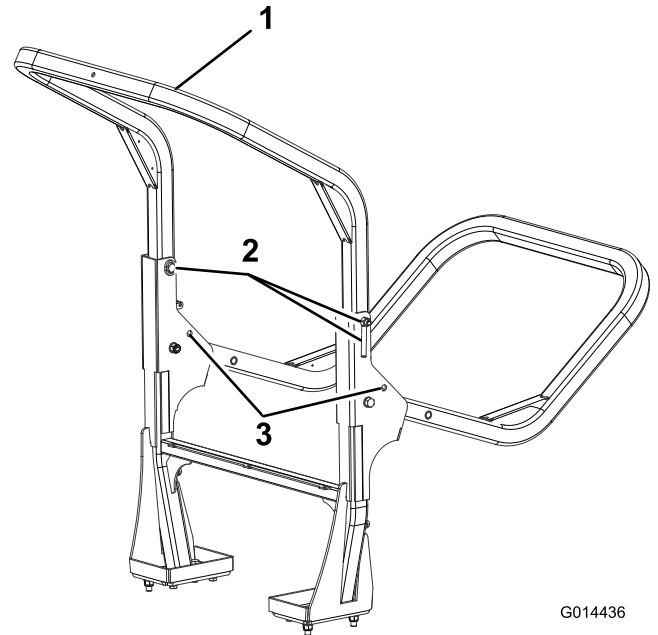

Figure 30
2. Support the weight of the upper frame while removing the hand nuts, washers and retaining bolts from the pivot brackets (Figure 30).